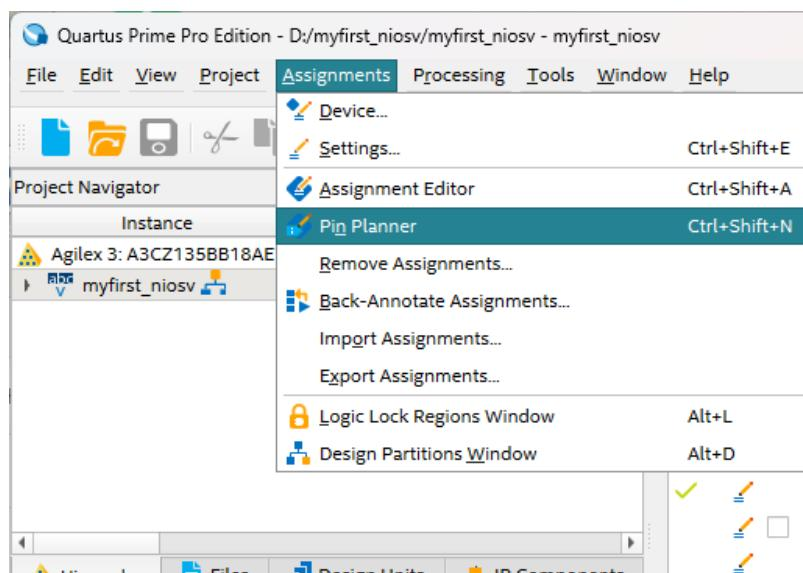

Figure 2-39 Pins menu
3. Choose **Assignments > Pin Planner** to open pin planner as shown in Figure 2-39. Figure 2-40 show blank pins.